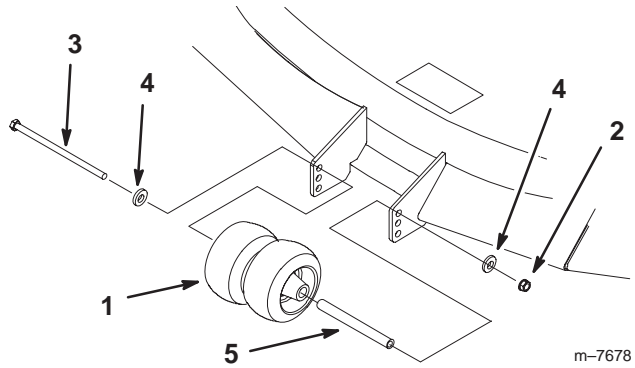

Figure 3
2. Install the center gage wheels with the previously removed bolt, small washer, spacer, and nut (Fig. 3).